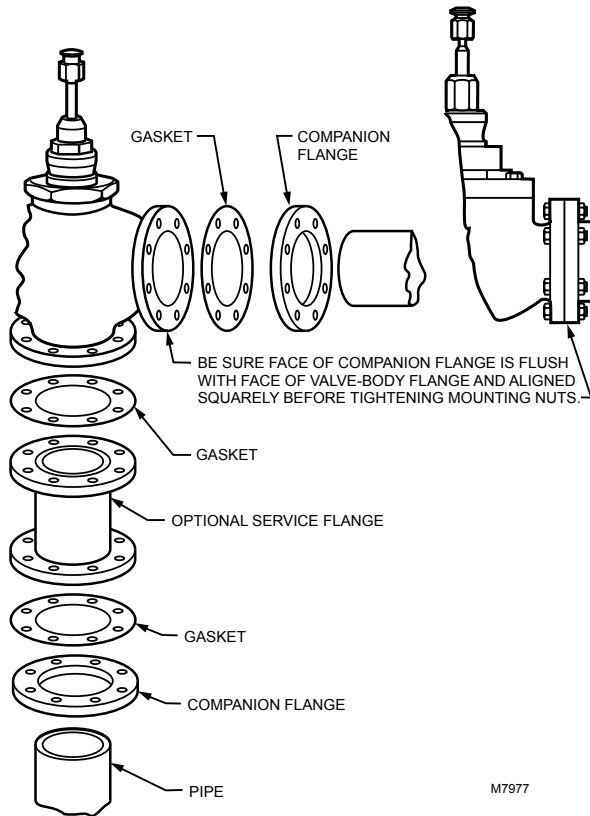

Fig. 12. Flanged valve body installation.
See Fig. 12 for typical installation.
7. Use mounting bolts long enough so the nuts can use the full length of the nut threads. (See Fig. 11.) Use bolts 1/8 in. smaller than the diameter of the bolt hole to allow clearance for installing. (See Fig. 12.)